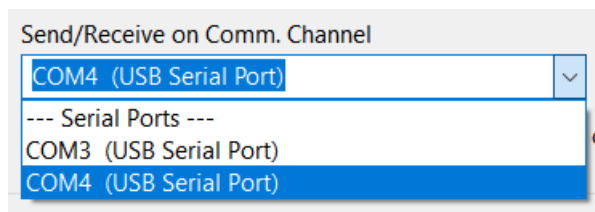

Figure 7.66. USB Serial Port Selection
7. Select the last USB serial port in the list, as shown in Figure 7.66.